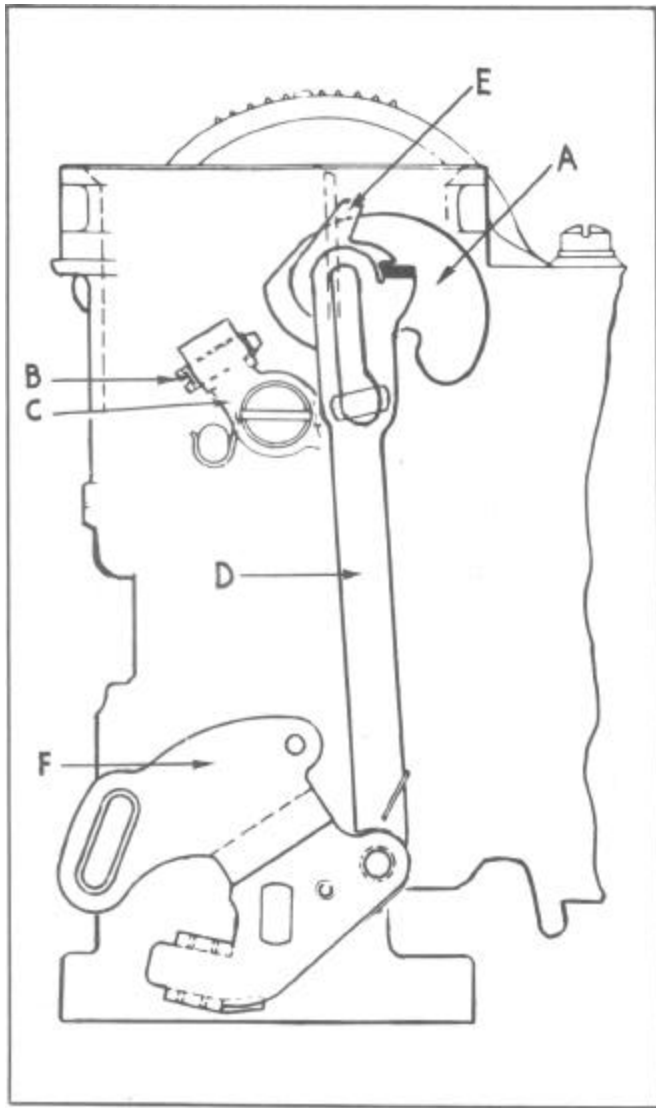

Figure 28 Lockout of Choker Valve
With the lip on the link (D) Figure 28, already bent for the correct unloader setting the same lip should lock the choker valve in a wide open position.